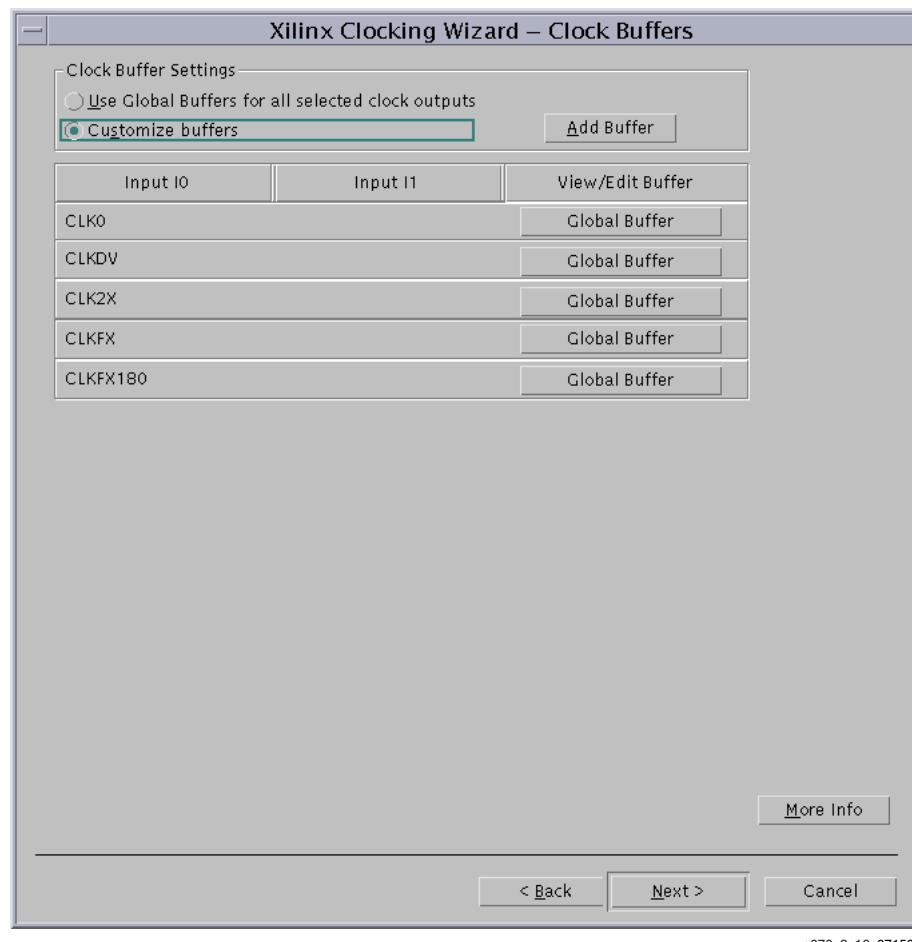
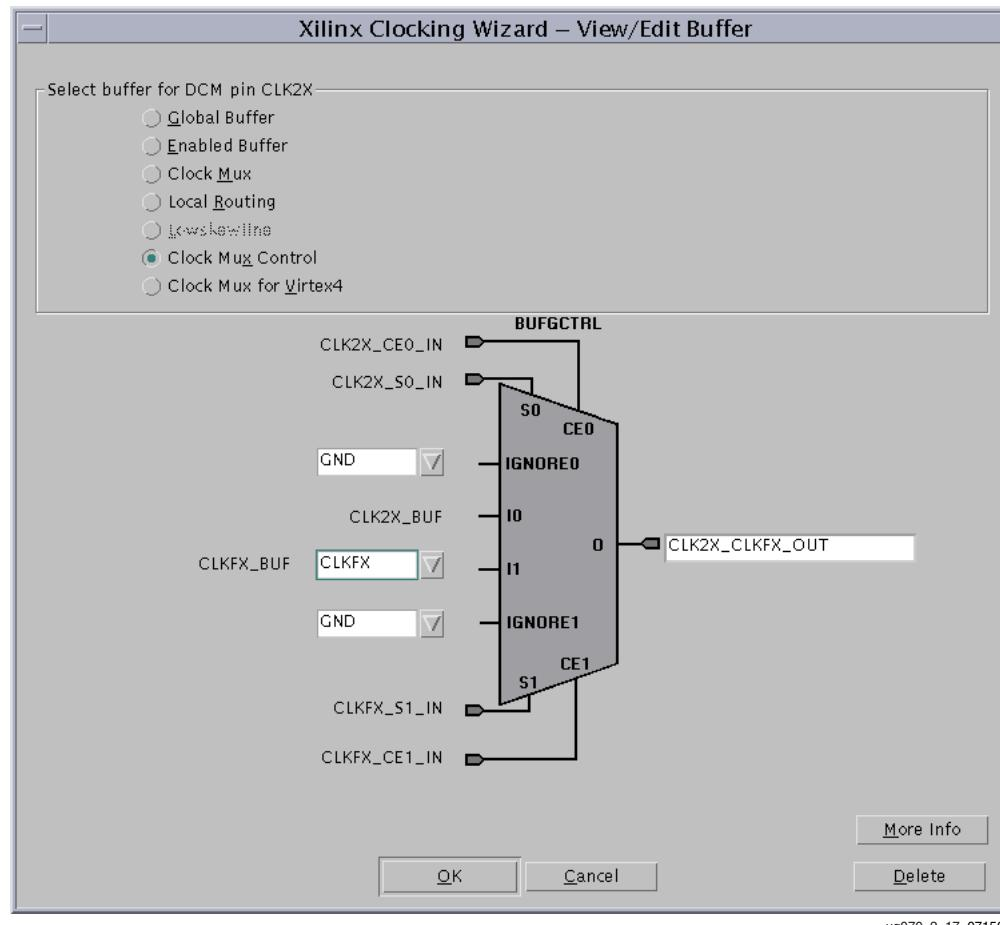

Figure 2-17: Xilinx Clocking Wizard — Clock Buffers
Figure 2-18: Xilinx Clocking Wizard — View/Edit Buffer
- ◆ The windows in Figure 2-17 and Figure 2-18 show the settings for the global buffers using the previously selected DCM clock outputs.